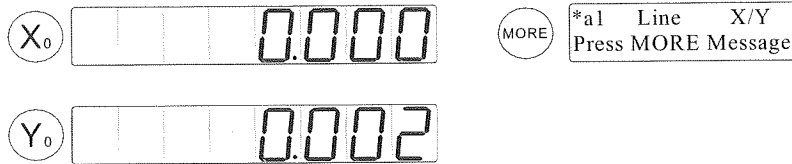

Figure 2-12 Line Message
- f. Press the  or  key to find the horizontal line L2 (Figure 2-7). Press  key to select L2 (Figure 2-12).